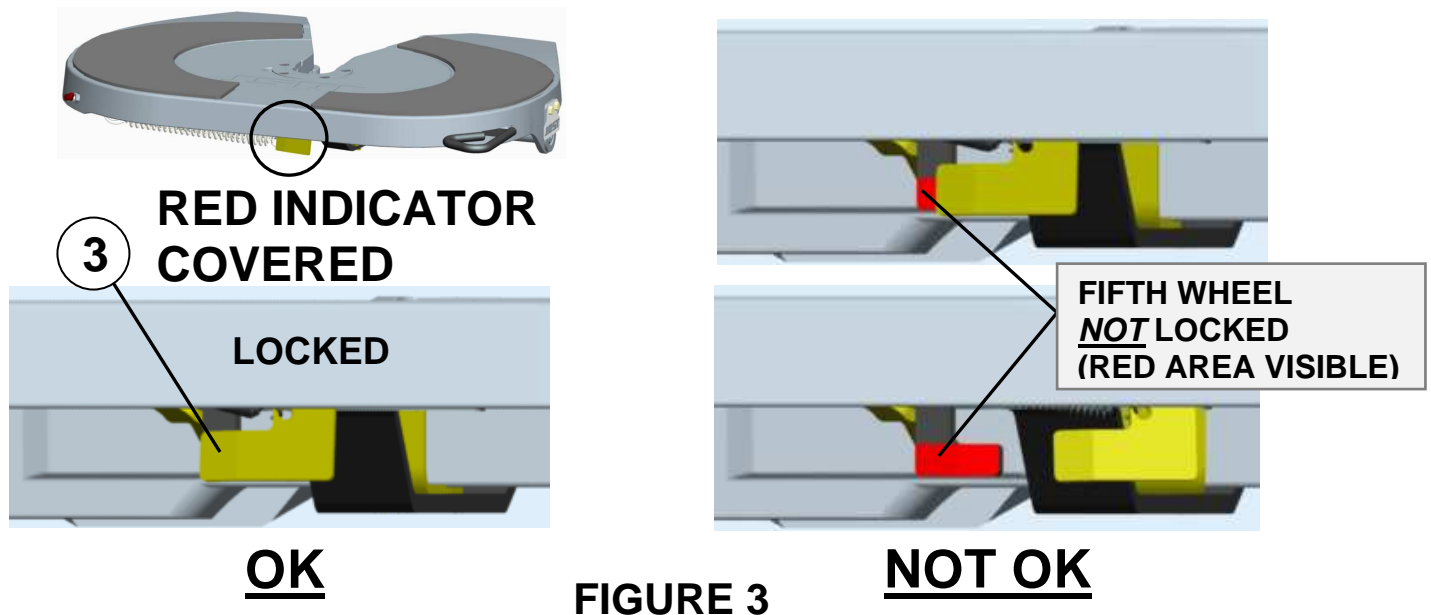

FIGURE 3
3. Check that the **RELEASE ARM SLOT** is **COVERED** by the fastener assembly (see figure 3).
DO NOT USE ANY FIFTH WHEEL THAT FAILS TO OPERATE PROPERLY! THE SLOT MUST BE COVERED AS SHOWN IN FIGURE 3.